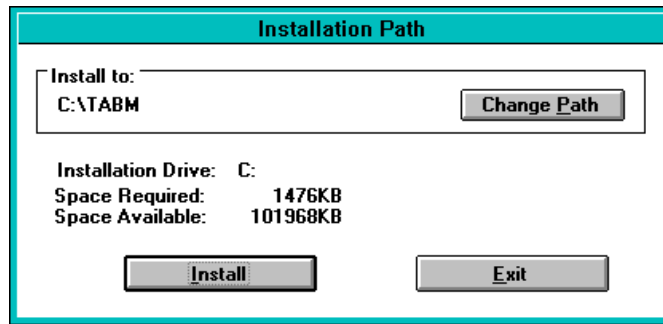

Figure 3-3 Installation Path Dialog Box
- 7 The Installation Path dialog box appears (Figure 3-3). If you want to change the directory or drive, choose the Change Path button and enter the desired destination (refer to your Configuration Worksheets). When you are satisfied with the installation path, choose the Install button to proceed with installation.